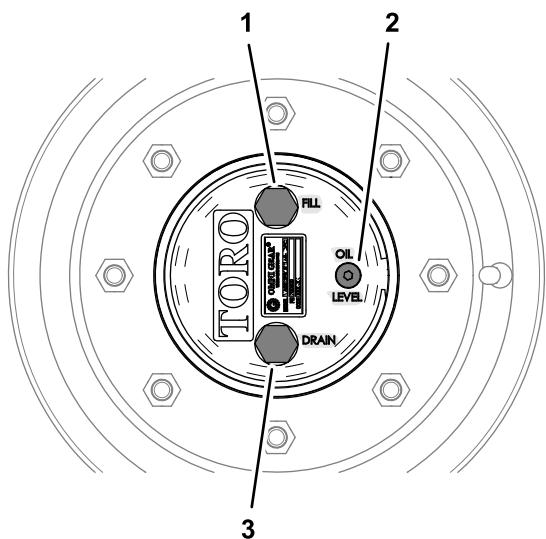

Figure 85
1. With the machine on a level surface, position a wheel so that the fill plug is at the highest (12 o'clock) position and the drain plug is at the lowest (6 o'clock) position (Figure 85).
1. With the machine on a level surface, position a wheel so that the fill plug is at the highest (12 o'clock) position and the drain plug is at the lowest (6 o'clock) position; refer to Figure 85 in Checking the Planetary-Gear-Drive Lubricant \(page 63\).